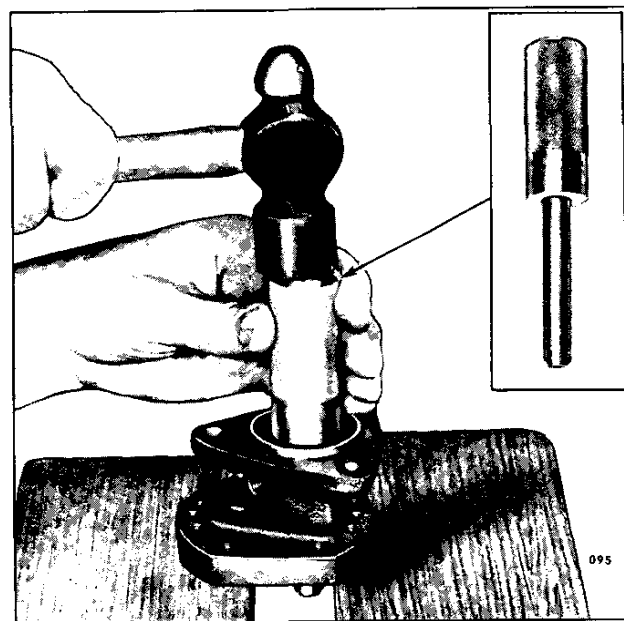

Fig. 7 – Installing Inner Oil Seal Using Tool J 1508-8
- b. With the pump body supported on wood blocks (Fig. 7), insert the pilot of the installer handle in